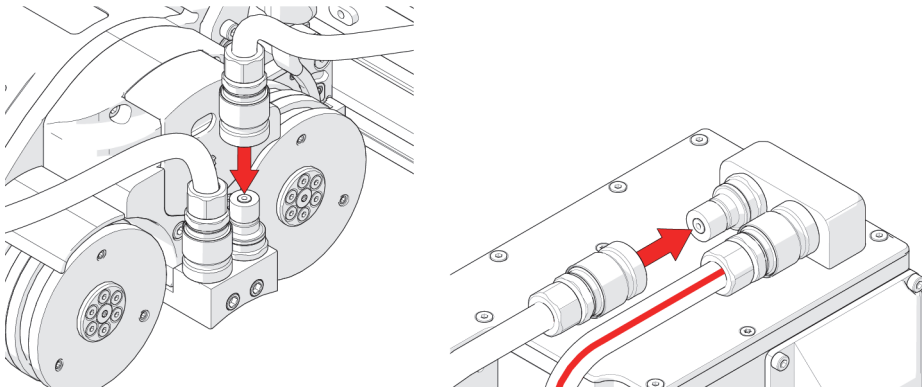

Figure 2-63 Connecting the hoses on the crawler and raster arm
1. Connect the hose fittings to the crawler's quick connect fittings (see Figure 2-63 on page 89).
2. Connect the hose fittings to the HT raster arm's quick connect fittings (see Figure 2-63 on page 89).